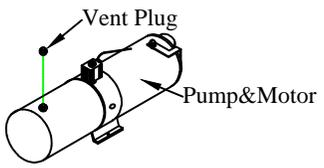

Figure 22: Vent plug.
2. **Unscrew** the solid plastic plug from the pump reservoir and **Install** the vent plug provided (Figure 22).